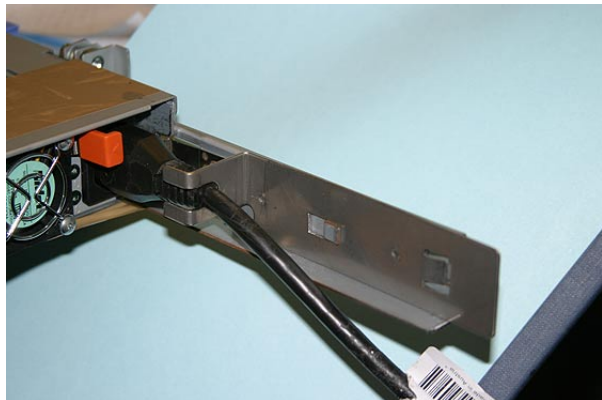

Figure 81. The SAN Volume Controller 2145-8F4 with cable retention bracket attached
3. Position the cable retention bracket against the support rail and attach the bracket onto the slot in the rear of the rail. Figure 81 provides a view of the cable retention bracket that is attached to the SAN Volume Controller 2145-8F4.